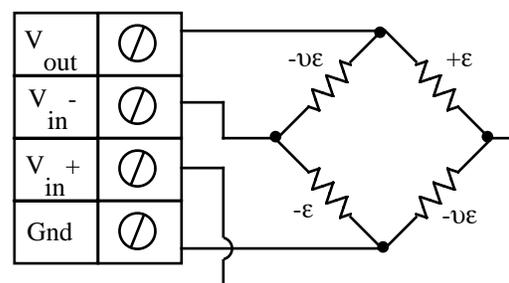

Fig 3.17 - Load Cell Measurement
9. Wire your voltage source per figure 3.17, and refer to the steps at the beginning of this chapter for more information on how to set up your sensor.5,10